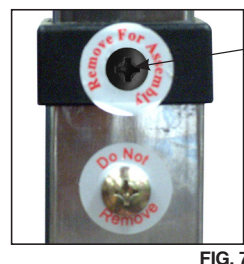

FIG. 7
9. **CAUTION:** This step must be completed last to prevent damage to the spring loaded mechanism. Remove the Black Screw (13) in the Column Assembly (2) collar labeled "Remove for Assembly" and replace it with the Chrome Screw (14) contained in hardware package. Do not remove Chrome Screw labeled "Do Not Remove". See Fig. 7 and Fig. 8.